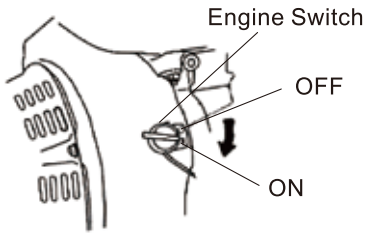

Fig.9
4. Turn the engine switch to the ON position. (Fig. 9)